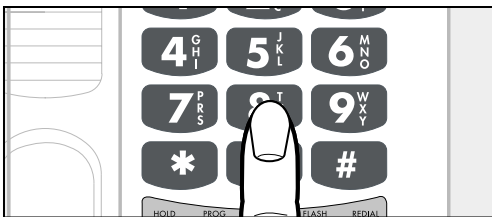

Figure 21 - Telephone Keypad
2. Enter the phone number on the keypad (Figure 21) just as you would dial it normally.